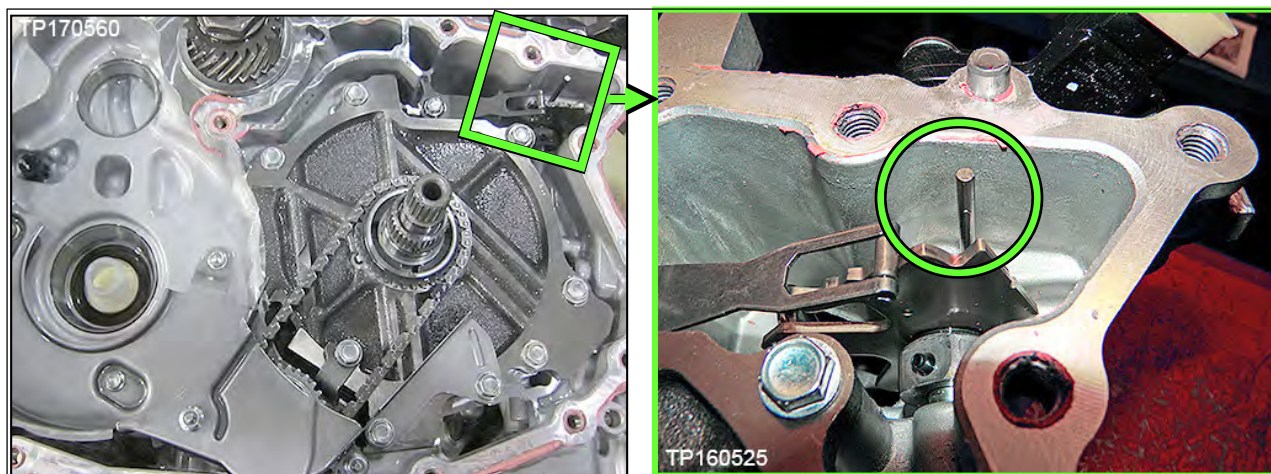

Figure 35
18. Note the location of the pin shown in Figure 35.